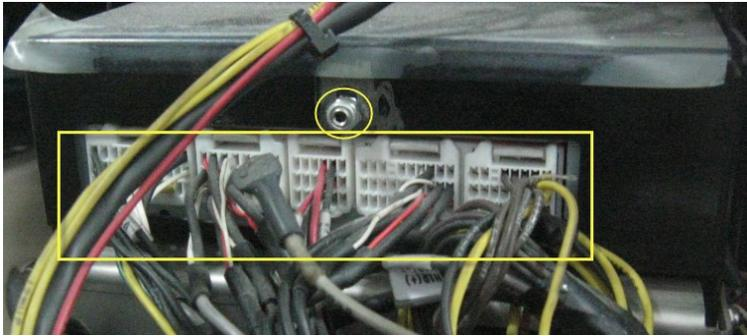

FIGURE 3: CONNECTORS AND RETAINING HEX NUT
2. Using a small flat head screwdriver, disconnect the five (5) connectors at the back of the sound selector (VSS) (Figure 3).
3. Remove the hex nut that holds the sound selector to the dashboard support (Figure 3).